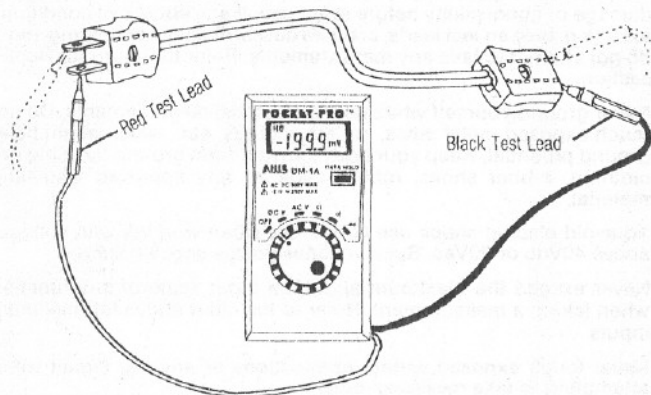

Fig. 3 Taking Resistance/Continuity Measurements
2. Completely de-energize the circuit or device to be measured. Connect the test lead probe tips to the device (see Fig. 3). (The red lead is positive with respect to the black lead).
3. Connect the test leads to the two points at which continuity is to be tested (see Fig. 3). The buzzer will sound if the resistance is approximately less than 450 Ω